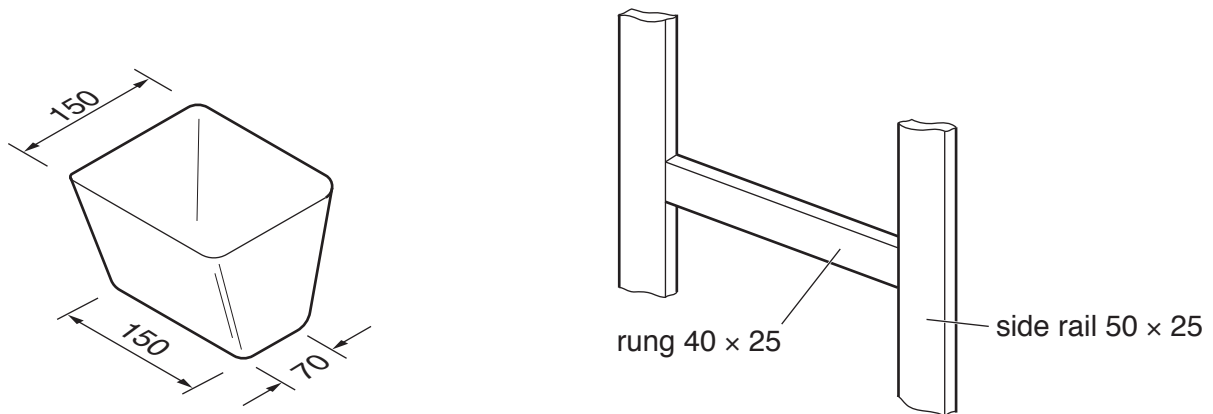

Fig. 19
- (d) The plant pots will be attached to the rungs securely but must allow for easy removal. Fig. 19 shows details of a plant pot and part of the ladder.